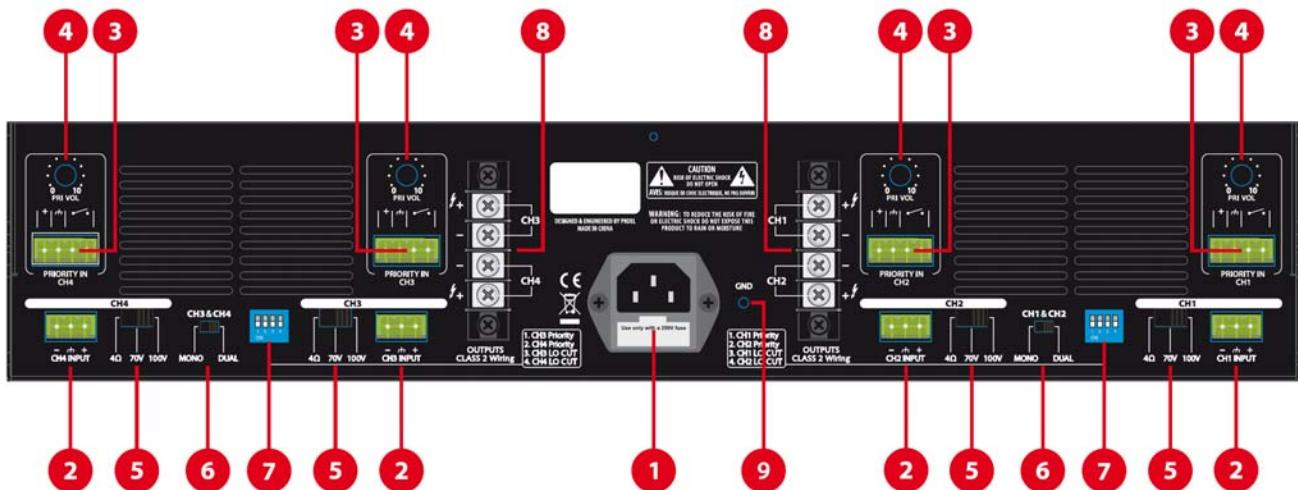

fig. 2
*Connect loads having minimum electrical impedance of not less than 4Ω to the output terminal (Fig. 2, Ref. 8)*
*Connect loads of 70V to the output terminal (Fig. 2, Ref.8)*
*Connect loads of 100V to the output terminal (Fig. 2, Ref.8)*
The priority input has a VOX function that can be connected and disconnected by means of the relative PIN (Fig. 2, Ref. 7):
**VOX enabled** – until the VOX circuit detects an audio signal on the input "PRIORITY IN CH\_" (Fig. 2, Ref. 3), the relative "CH\_INPUT" input will be automatically muted and output will only have a priority signal.
**"clean contact"** – The priority input also has a "**clean contact**" that forces muting of the "CH\_INPUT" (Fig. 2, Ref. 2) input, leaving the "PRIORITY IN CH\_" input active regardless of the PIN settings of the DIP SWITCH (Fig. 2, Ref. 7).
Connect the BM100A terminal to the priority input terminal board (**Fig. 2, Ref. 3**) according to the diagram reported under the base:
Operate this potentiometer to increase or decrease the audio signal level on the relative “PRIORITY IN CH\_” (**Fig. 2, Ref. 3**).
In this operating status, connect a suitable power supply load to the output terminal (**Fig. 2, Ref. 8**) having minimum electrical impedance of not less than 4Ω
In this operating status, connect an adequately powered load of 100V to the output terminal (**Fig. 2, Ref. 8**)
In this operating status, connect an adequately powered load of 70V to the output terminal (**Fig. 2, Ref. 8**)
The signals on channel CH1 inputs will only be present on the CH1 amplified output (**Fig. 2, Ref. 8**). Similarly for CH2.
**CH1&CH2 SELECTOR on MONO:** In this status, both “CH1” and “CH2” outputs (**Fig. 2, Ref. 8**) will have the same amplified audio signal from the total of “CH1 INPUT” and “CH2 INPUT”, the priority inputs “PRIORITY IN CH1” and “PRIORITY IN CH2”, however, they will only operate and be present on their respective channels.
The signals on channel CH3 inputs will only be present on the CH3 amplified output (**Fig. 2, Ref. 8**). Similarly for CH4.
- CH3&CH4 SELECTOR on MONO:** In this status, both "CH3" and "CH4" outputs (**Fig. 2, Ref. 8**) will have the same amplified audio signal from the total of "CH3 INPUT" and "CH4 INPUT", the priority inputs "PRIORITY IN CH3" and "PRIORITY IN CH4", however, they will only operate and be present on their respective channels.
**ON** - enabled VOX priority operation on the relative "PRIORITY IN CH\_" input (**Fig. 2, Ref. 3**).
**OFF** - disabled VOX priority operation on the relative PRIORITY IN CH\_ input (**Fig. 2, Ref. 3**).
After selecting the operating mode (**Fig. 2, Ref. 5**), connect an adequate load to the respective output. Refer to paragraph 5 "**LOUDSPEAKERS CONNECTION**".
Turn the operating method selector (Fig. 2, Ref. 5) to  $4\Omega$ .
Connect the constant impedance line ( $4\Omega$ ) between the two "+" and "-" terminals (Fig. 2, Ref. 8).
Turn the operating method selector (Fig. 2, Ref. 5) to 100V.
Connect the constant voltage line (100V) between the two "+" and "-" terminals (Fig. 2, Ref. 8).
Turn the operating method selector (Fig. 2, Ref. 5) to 70V.
Connect the constant voltage line (70V) between the two "+" and "-" terminals (**Fig. 2, Ref. 8**).